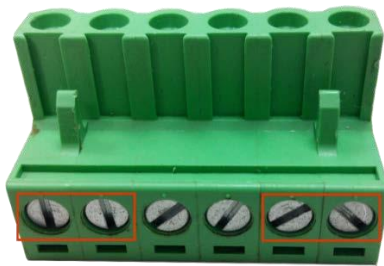

Figure 2.7: Power Terminal Block
- Step 2 Tighten the wire-clamp screws to prevent the wires from loosening, as shown below in Figure 2.7.